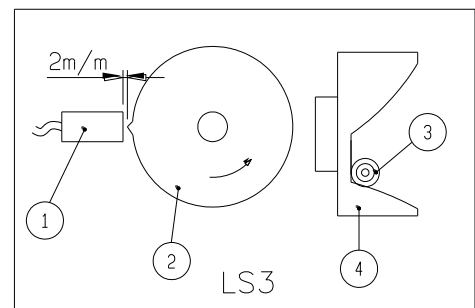

Fig.5.7
LS3: LS3 decides whether the control assembly returns to the home position. We adjust the limit switch cam (②) to control the action time(See Fig.5.7).